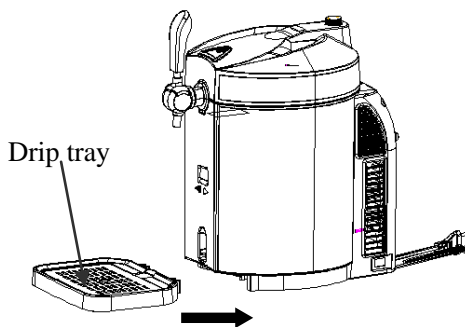

Figure 7
3. Set the water drip tray into the notch provided. (Show as figure 7)